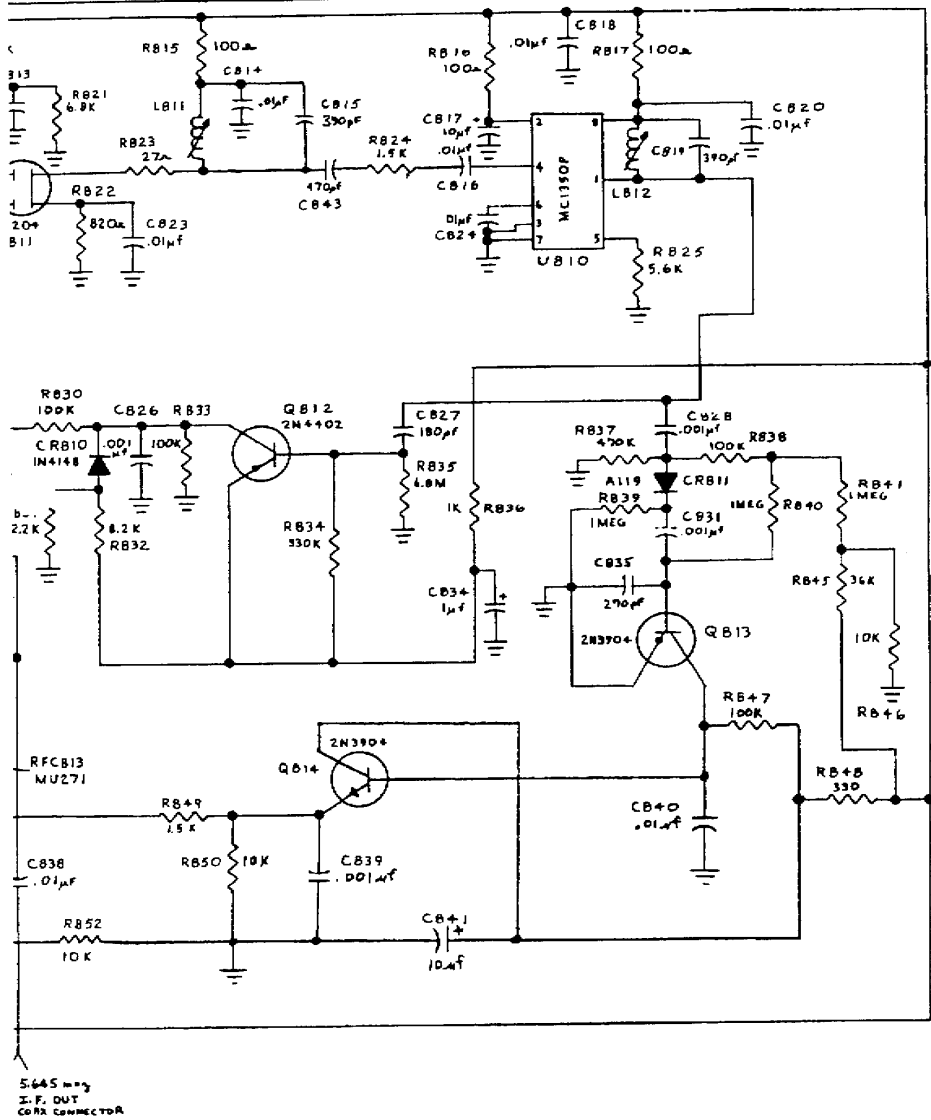

Fig. 4-7 NB-7 Board Schematic, Version 1
5) Refer to figure 4-7, and connect VTVM to test pad. Depress NB switch to activate noise blanker.